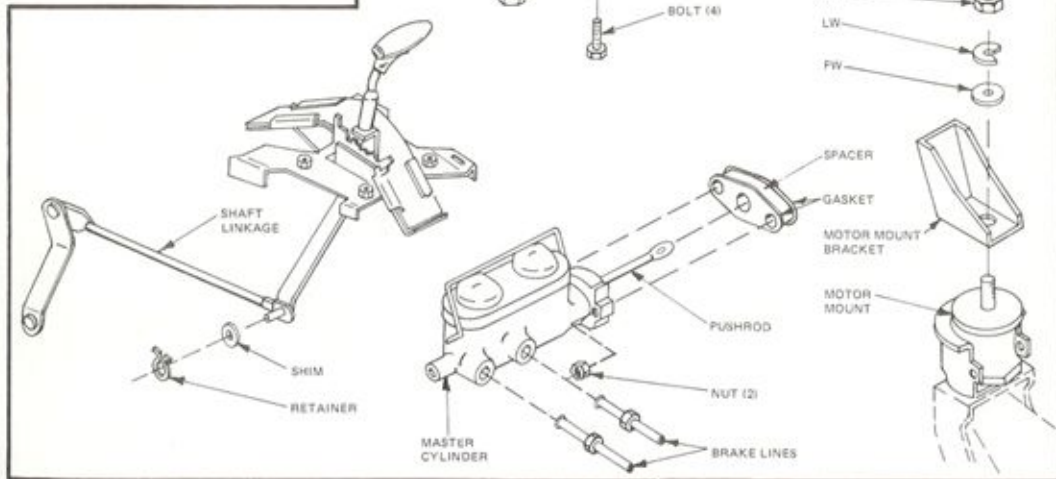

Figure 6
- Under car, remove retainer holding shift linkage to handle. Remove nut at center of transmission mount. (Figure 6)